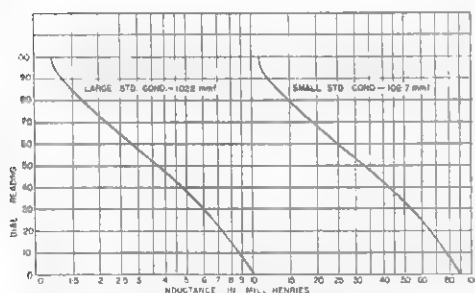

FIG 1 - EFFECTIVE INDUCTANCE VS DIAL READING BAND 1.
Where the antenna has positive reactance, Fig. 1 (d), proceed as follows:
Where the antenna has negative reactance, Fig. 1 (e), proceed as follows: Procedure No. 3—
The  $L$  network may be used for matching directly into a coaxial transmission line Fig. 1 (f), in which case  $R_x$  will be coaxial. This value will be 50 to 70 ohms and if properly terminated at the antenna end the reactance looking into the line will be zero. Procedure No. 1 is followed in this case.
the curves still more useful the calculated frequencies can then be converted to dial readings (from the previously prepared frequency calibration curves) and the results drawn up as curves of Lx and Cx vs. Dial Reading for each band, and for each plug-in standard. Typical inductance and capacity curves are shown in Figs. 1 and 2 respectively. Note that the value of C in equation (2) Part I includes the output capacity of the test terminals as well as the capacity of the plug-in condenser. The inductance value obtained from Fig. 1 is the "Effective" and not the "True" inductance. Generally, but not always, the two are nearly enough equal for practical purposes. The true inductance will always be less than the effective inductance, by an amount proportional to the fraction of the total resonating capacity supplied by the distributed capacity of the coil. (e.g. If a coil has effective inductance of 1 mh. and distributed capacity of 2 mmf., and resonance is established with 100 mmf. external capacity, then the true inductance will be 100 or approximately 2% — x 1 mh.,